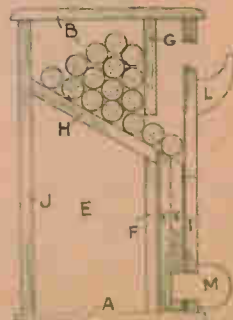

Fig. 2 Section showing how the box works
The sectional diagram (Fig. 2) gives a clear idea of the various parts of the box, and the simple mechanism at the front. The box is made up, and just behind the front (I) is arranged a compartment in which the sliding front (K) is held. At the bottom of this is a handle (M) for raising and lowering.
The next piece to cut will be piece (F) (see cutting list and Fig. 2). The top edge of this piece must be carefully chamfered to the same slope as the
with the moving inner front (K) which consists of two pieces glued together to the sizes given on the pattern sheet. First cut the two pieces to the full size shown, then glue them together face to face, afterwards chamfering one long edge to the section shown. Note that the mortise (M) must be cut in the one piece only—the front piece (see section, Fig. 2).